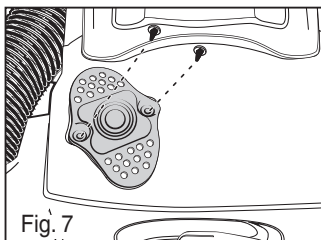

Fig. 7
- 1) Lower handle to floor and remove HEPA filter (Fig. 7).
- 1) Use handle release to lower handle flat onto floor. Turn vacuum over. Remove 3 screws (Fig. 7) and lift off base plate.